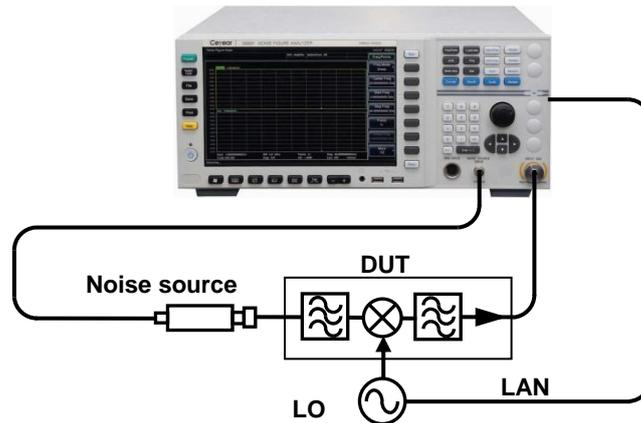

Fig.4.8 Measurement Connection of Upconverter and Downconverter Measurement Mode
**Step 3.** After the calibration is completed, insert the DUT between the noise source output and the input port (50Ω) of the noise figure analyzer for measurement. The measurement connection of the converter test mode is shown in Fig. 4.8.